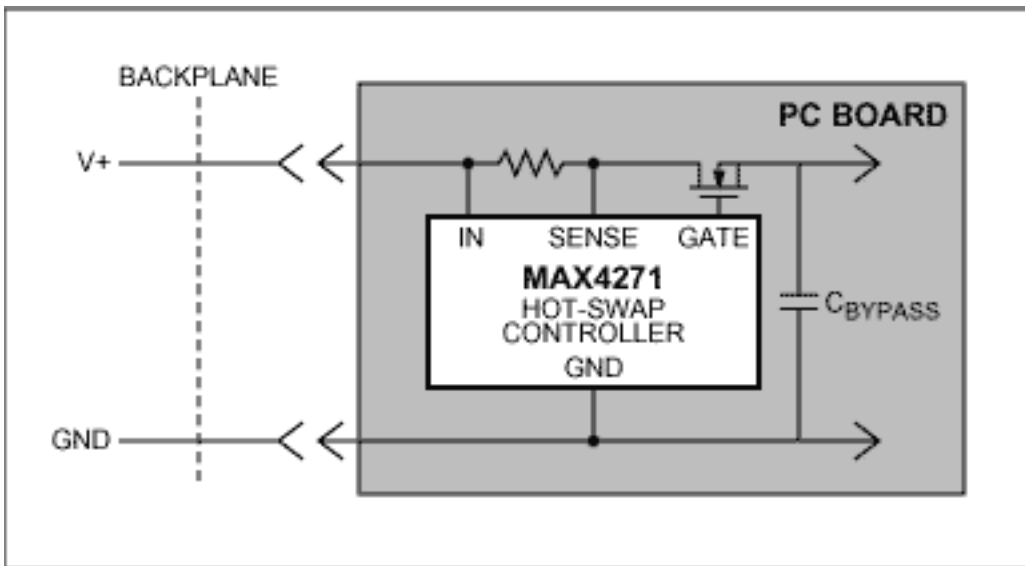

Figure 1b. Adding a hot-swap controller to the PC board limits the inrush current by controlling the slew rate of the voltage applied to the bypass capacitor.
**Figure 1b** shows how a hot-swap controller limits the inrush current by slowly decreasing the on-resistance of an N-channel MOSFET. When the board is first plugged in, the controller slowly enhances the MOSFET, allowing the voltage at the MOSFET's drain to rise from zero volts (or fall from zero volts for PC boards powered by a negative supply). Two schemes for controlling this rise (or fall) from zero volts are common.